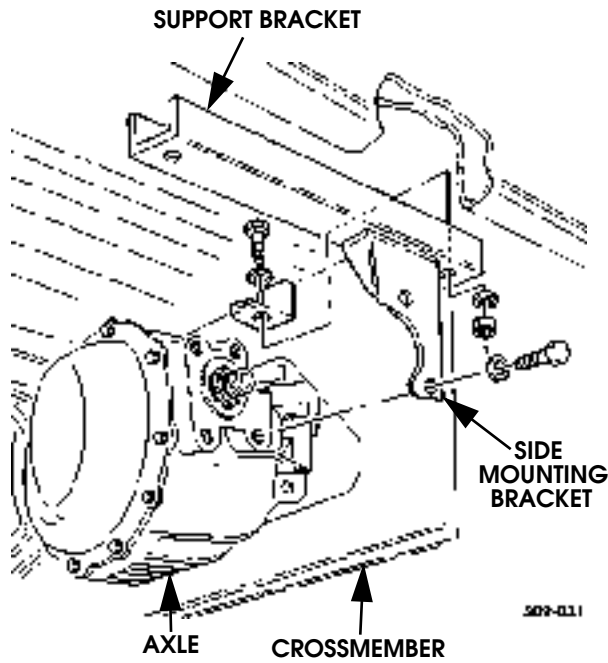

Figure 9-142: Side Mounting Bracket Removal
4. Remove two bolts and washers securing side mounting bracket to axle (Figure 9-142).
2. Install support bracket and side mounting bracket on crossmember with two washers, bolts, washers, and locknuts (Figure 9-142). Do not tighten bolts.
5. Remove two nuts, washers, bolts, and washers securing front crossmember to support bracket (Figure 9-142).
7. Secure front crossmember to support bracket with two washers, bolts, washers, and nuts (Figure 9-142).